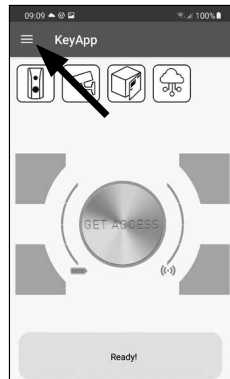

Fig. 37
- ① First, download the secuENTRY KeyApp and register.
- ② Open the main menu (Fig. 37).